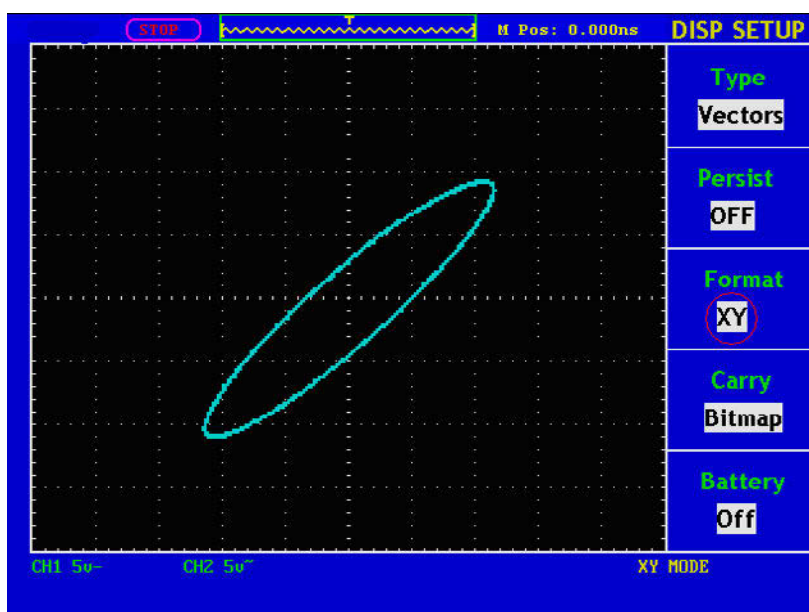

Figure 55. Display in XY Format.
- 3 Press **F1** to set Vectors as type, **F2** to set Infinite for persist and **F3** to set XY as Format as shown as Fig. 55